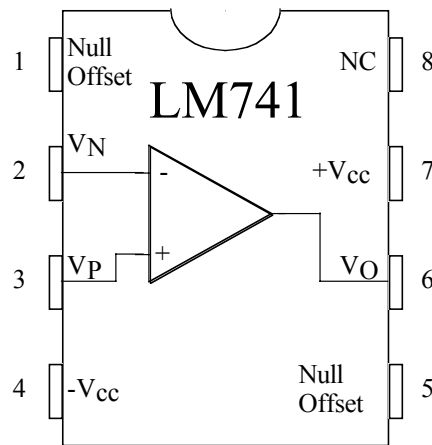

Figure 3: 741 Chip Layout Pin Connections
- a. Examine the chip layout of Figure 3. The standard procedure on DIP (dual in-line package) "chips" is to identify pin 1. Pin 1 is usually identified with a dot or it is positioned to the left of a notch at one end of the chip package. Generally, the notch separates pin 1 from the last pin on the chip. In the case of the 741, the notch is positioned between pins 1 and 8.